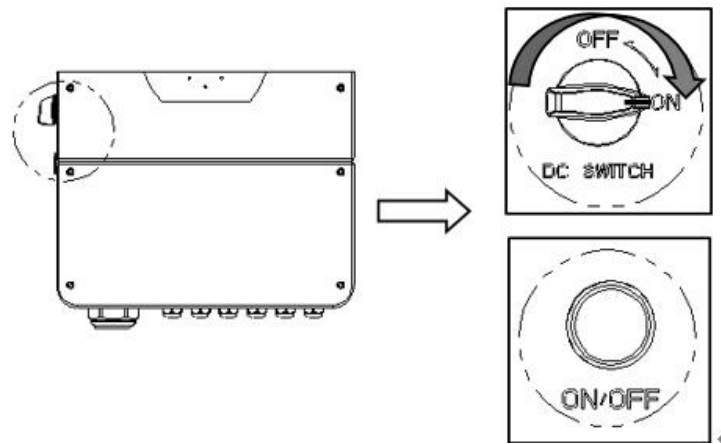

Figure 4.2.3
Step 4: Place the inverter DC switch "ON" (Figure 4.2.3).